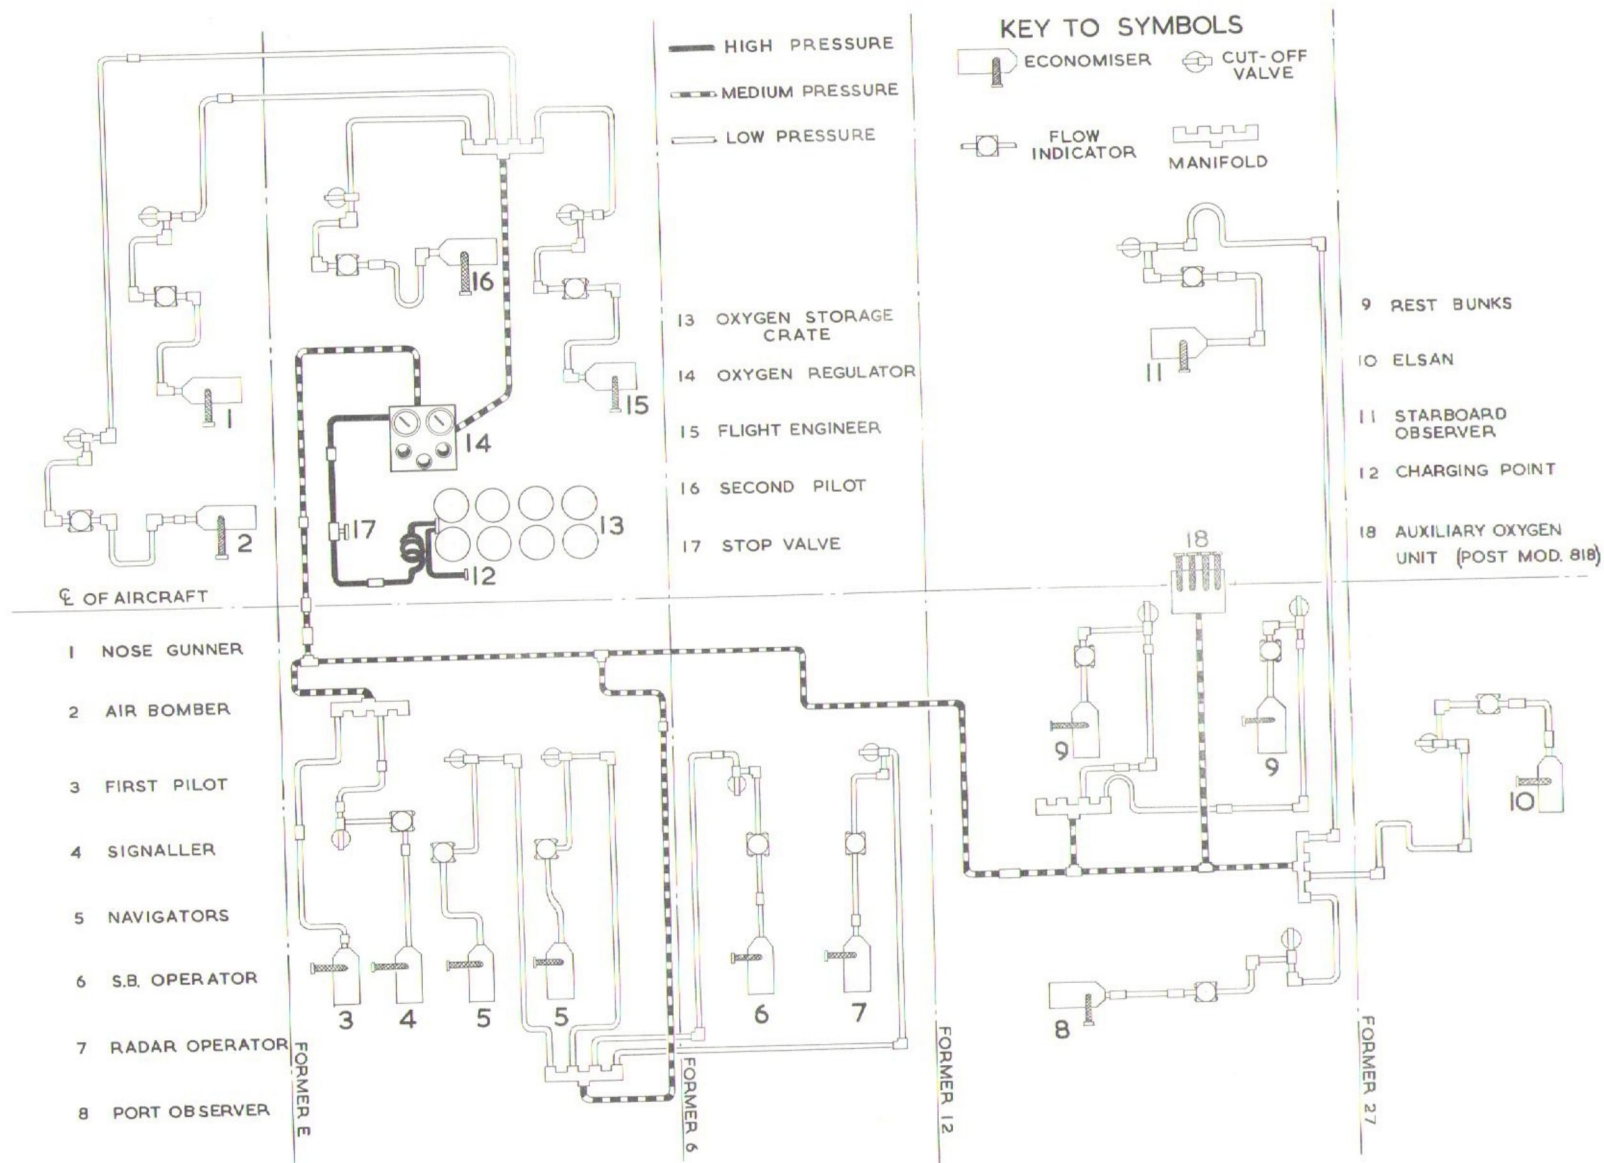
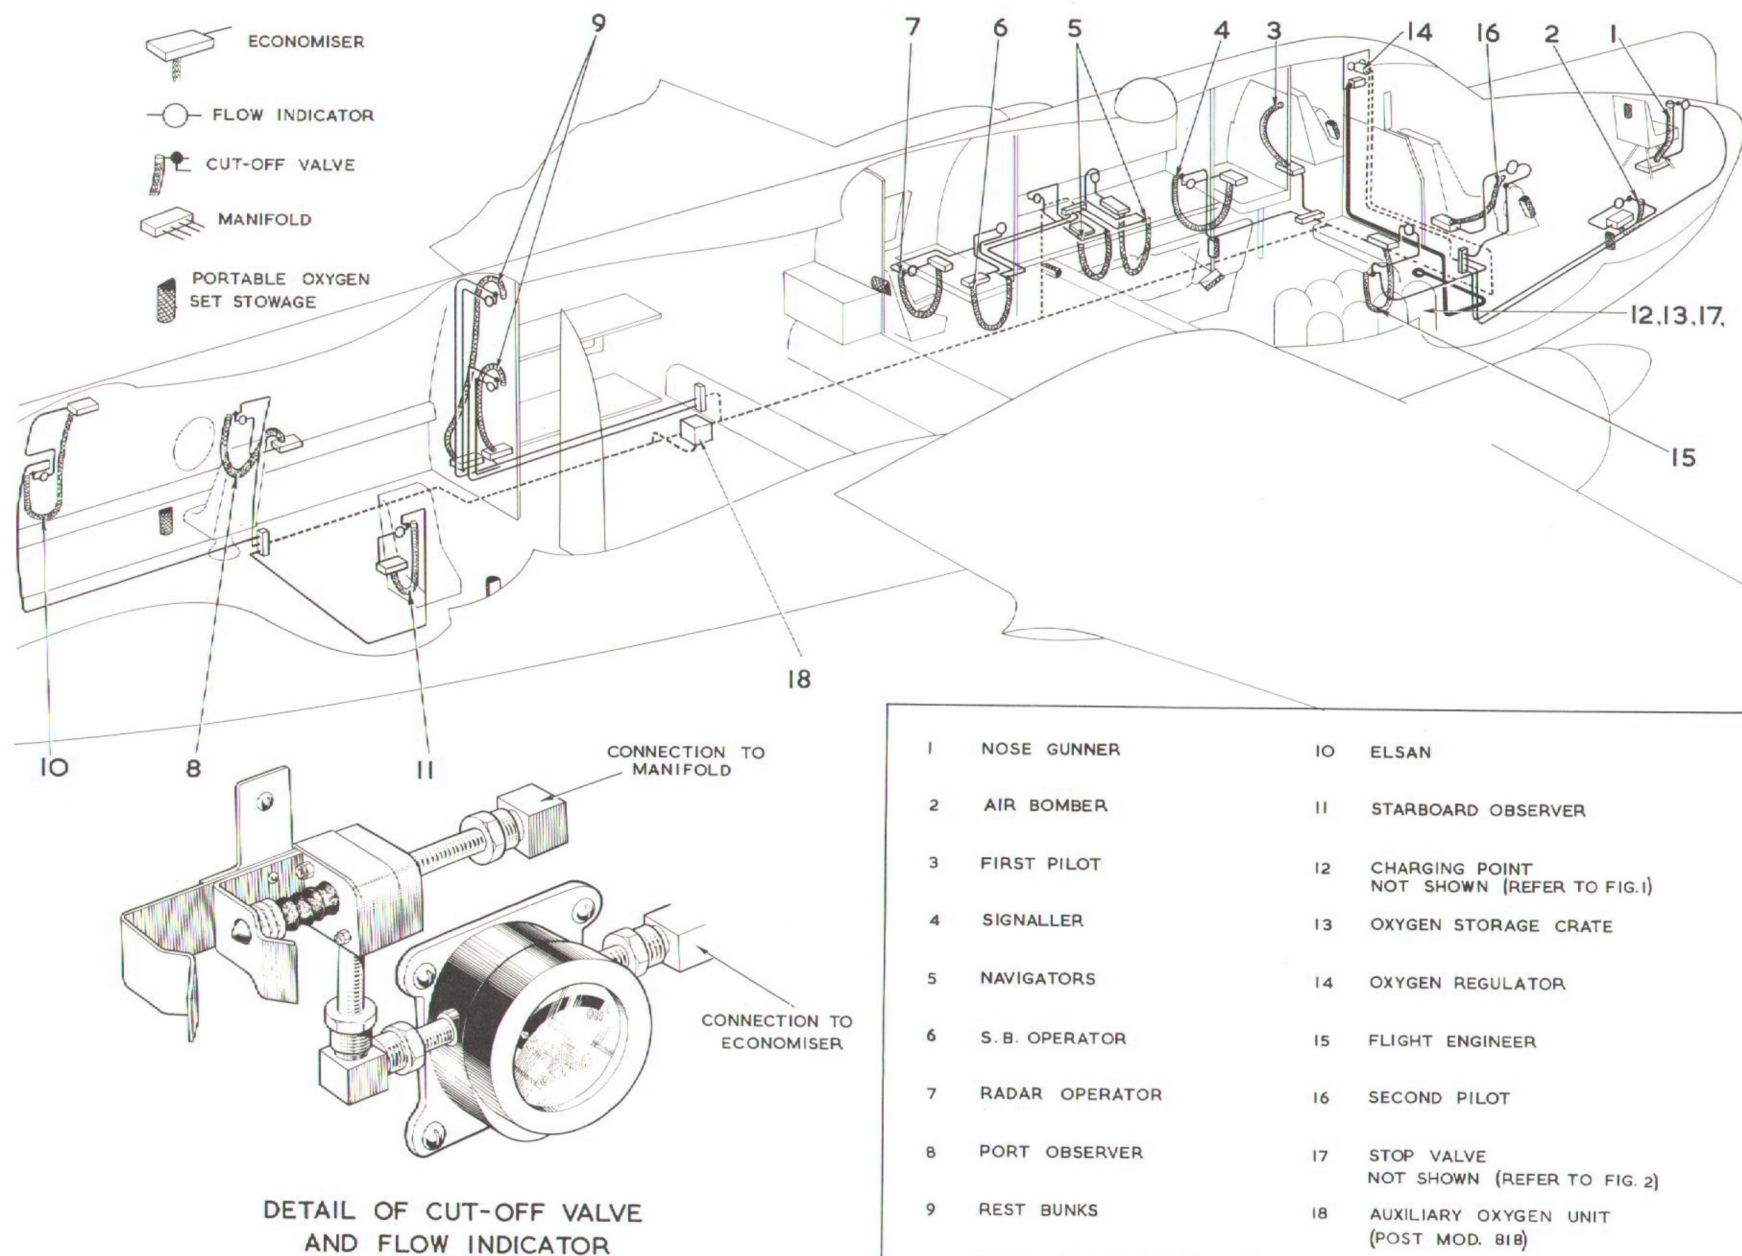

Fig. 2. Diagram of oxygen system
Fig. 3. Oxygen system
and charge pipes which are fitted with stop valves as shown in fig.2. The FEED stop valve is wired in the ON position except during removal or attachment of the crate, while the CHARGE stop valve is wired in the OFF position except when the system is being charged.
Piping to regulator (fig.2)
Manifolds (fig.2)
Outlet points (fig.2)
6. At low pressure, the oxygen is led through a cut-off valve, a flow indicator, and then through a flow economiser to the oxygen outlet points as shown in fig.2. The first pilot's supply only is direct from the appropriate manifold. The layout of the system is shown in fig.3.
10. To prevent wastage during expiration, economisers, which provide an intermittent flow, are fitted at each supply point as shown in fig.2.